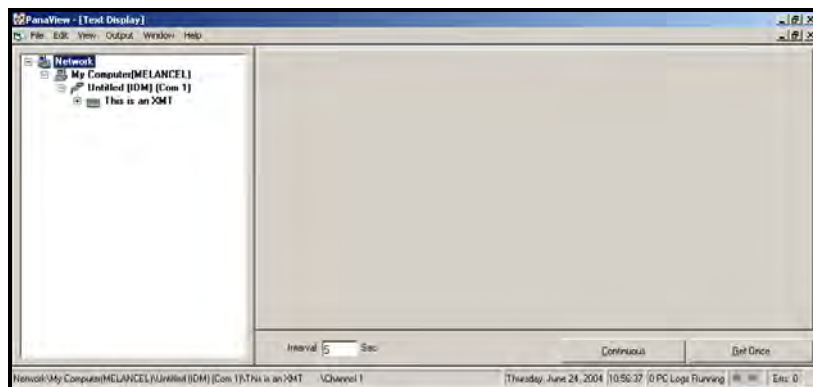

Figure 6: The Text Display Window
5. Using the *Window* menu, arrange the open windows in the desired format. For this discussion, Figure 6 shows the *Text Display* window in its maximized (full-screen) size.
**Note:** Figure 6 has been compressed both vertically and horizontally for improved clarity.